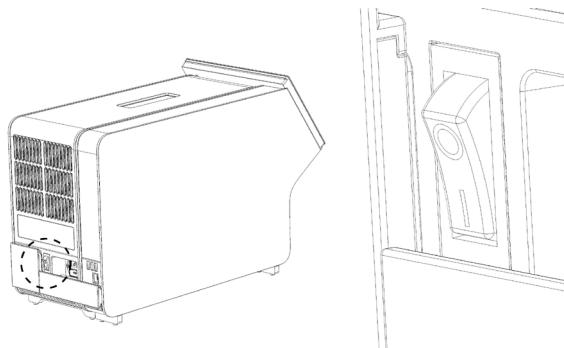

Figure 18. Locating the power switch and setting it to the "I" position.
10. Power ON the instrument by pressing the power switch on the back of the Analytical Module to the "I" position (Figure 18). Confirm that the status indicators of the Analytical and Operational Modules are blue.